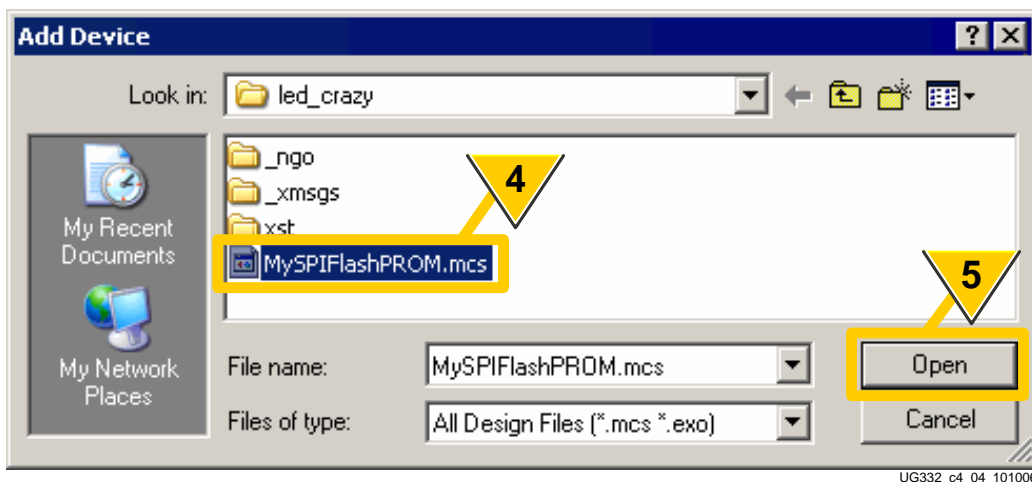

Figure 4-17: Select a Previously-formatted PROM File
4. Select a previously-formatted PROM file, as shown in Figure 4-17.